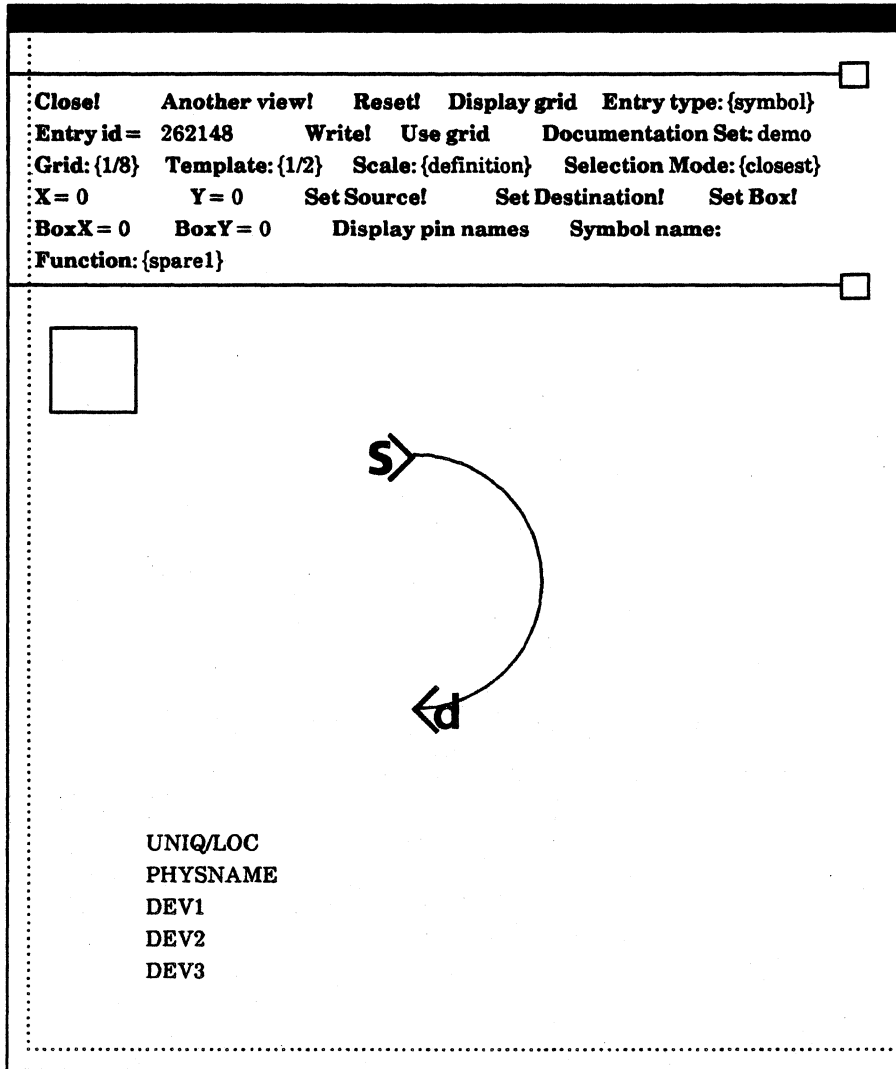

Figure 2.7
- 2) Select **Create AND Arc** in the Symbol Menu. (If the distance between the source and destination markers is not centered at a grid point, the system moves the source and destination markers so that it is. Select **Create AND Arc** once more). The system draws the AND arc. See figure 2.7.